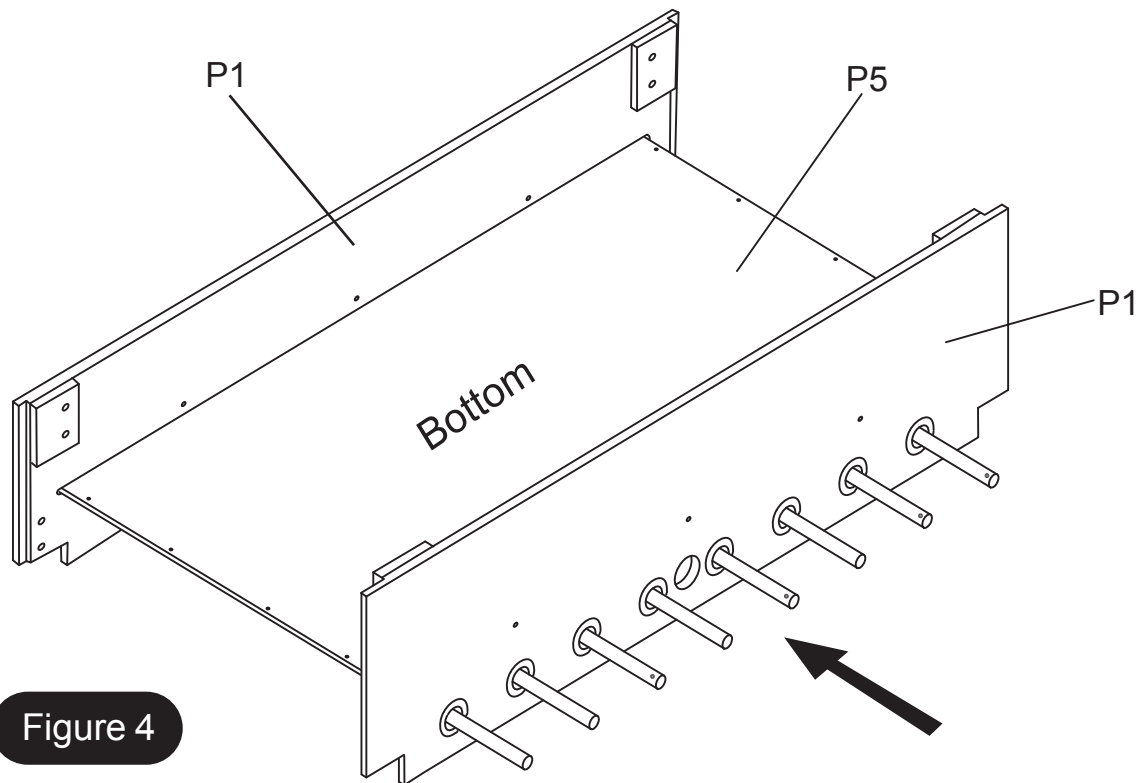

Figure 4
6. Once you are sure you have the rods set up correctly, slide the other Side Apron **P1** onto the rods as shown in **FIGURE 4**.
7. Set the Playfield **P5** in the side aprons as shown in **FIGURE 4**.